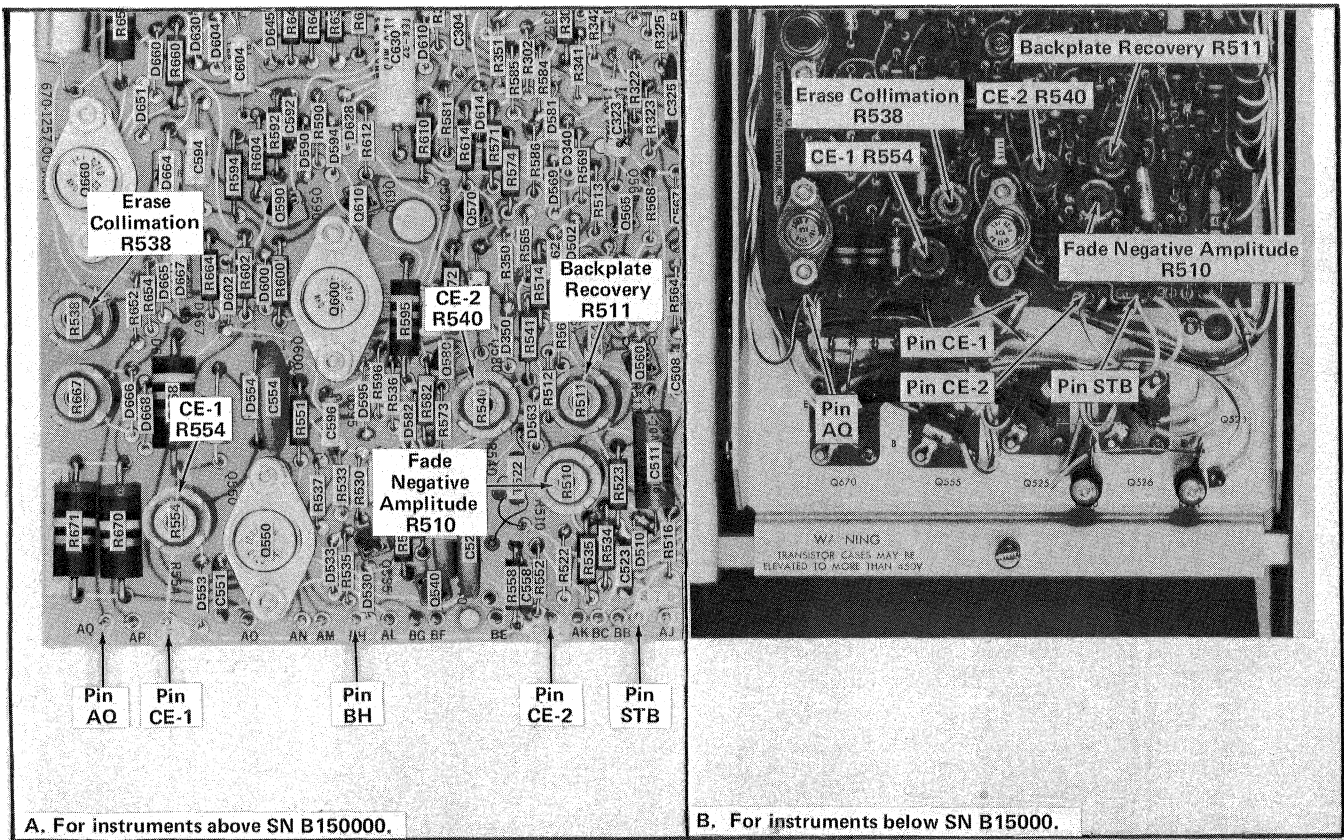

Fig. 5-9. Locations of the Storage board adjustments and test points for steps 12 through 16 and step 29A for instruments above SN B150000.
12. Check or Adjust CE-2 (R540) and CE-1 (R554) ①
- c. Connect a precision DC voltmeter between pin CE-2 on the Storage board (Fig. 5-9) and chassis ground.
- d. ADJUST—CE-2 (R540, Fig. 5-9) to obtain the same voltage reading as that specified for the CRT collimation electrode CE-2 in the instrument.
- e. Disconnect the voltmeter test lead from pin CE-2 and reconnect it to pin CE-1 (Fig. 5-9).
- f. ADJUST—CE-1 (R554, Fig. 5-9) to obtain the same voltage reading as that specified for the CRT collimation electrode CE-1 in the instrument.
13. Check or Adjust Erase Collimation (R538) ①
a. Connect a 10X probe from the test oscilloscope Channel 1 input to pin CE-2 on the Storage board (Fig. 5-9) and position the test oscilloscope trace to the bottom horizontal graticule line.
f. ADJUST—R538 (Fig. 5-9) for a CE-2 waveform with its lower excursion at the same level as specified for the CRT.
b. Connect another 10X probe from the test oscilloscope Channel 2 input to pin STB on the Storage board (Fig. 5-9).
g. ADJUST—R510 (Fig. 5-9) for approximately 10 ms STB dead time at the zero volts level.
f. ADJUST—R511 (Fig. 5-9) so that the end of the STB recovery time coincides with the end of the CE-2 negative-going excursion.
a. Connect the Channel 1 10X probe to pin AQ on the Storage board (Fig. 5-9).